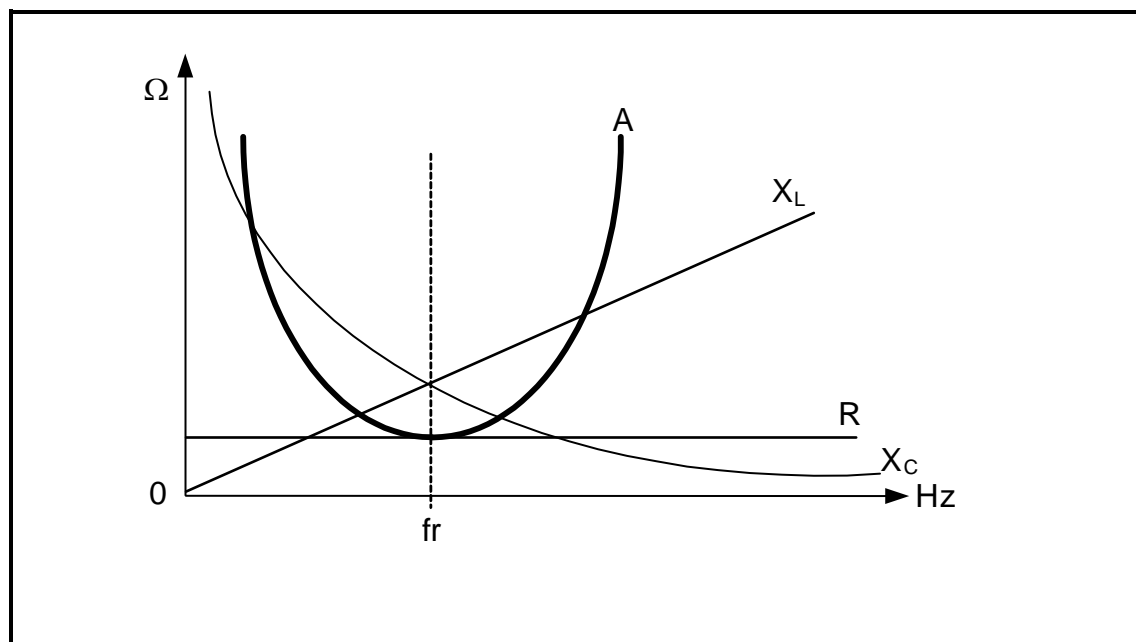

FIGURE 2.5: RESONANCE RESPONSE CURVE
2.5 Refer to FIGURE 2.5 below and answer the questions that follow.
- 2.5.3 Explain why the inductive reactance in FIGURE 2.5 is represented by a straight line and the capacitive reactance is represented by a curved line. (2)